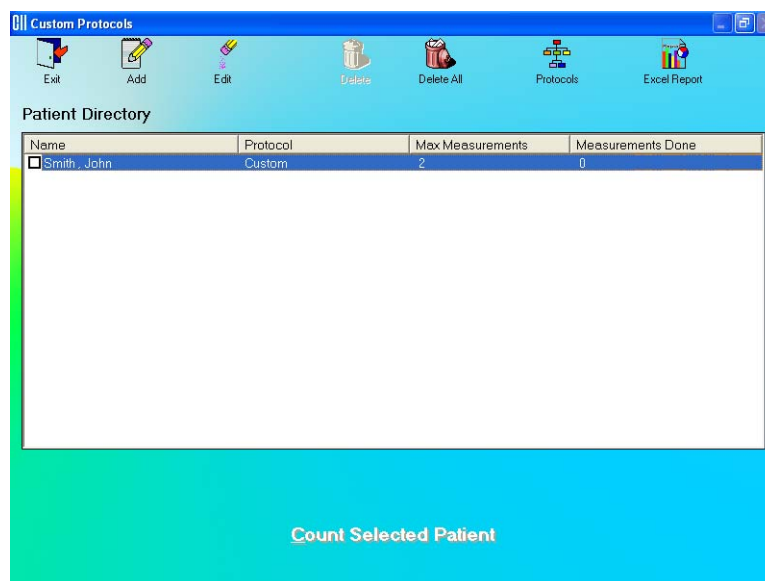
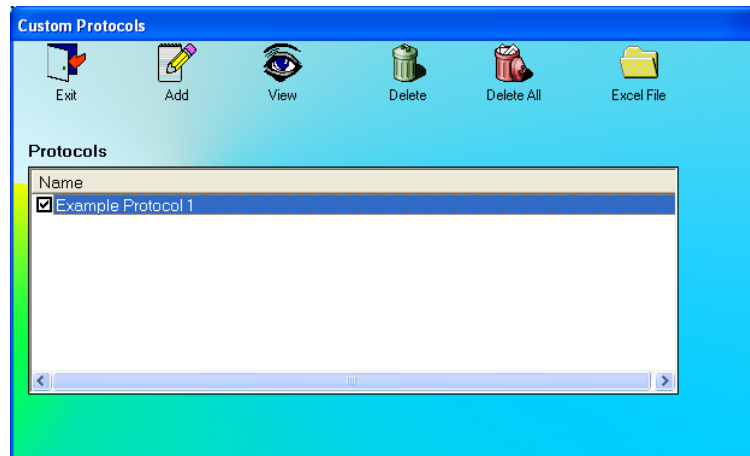

Figure 16-1 Main Custom Protocols Screen
Figure 16-2 Main Protocol Screen
Click the **Custom Protocols** button or press *ALT+C* on the Main screen. Figure 16-1 Main Custom Protocols Screen will appear. The **Patient Directory** list box will be empty if there are no existing patients in the database at that time. Each added patient will appear in this box with its name, Protocol name, maximum number of measurements for the protocol and number of measurements that have been performed.
To Add, View, or Delete Protocols, click the  icon on Figure 16-1 Main Custom Protocols Screen. Figure 16-2 Main Protocol Screen will appear.
1. Click the  icon on Figure 16-2 Main Protocol Screen. The Protocol Setup screen will appear as shown in Figure 16-3.
Click the  icon on Figure 16-2 Main Protocol Screen. You can then step through the screens described in Adding Protocols and view the details of the protocol.
On the Main Protocol Screen, check the Protocols that you want to delete. Click the  icon on Figure 16-2 Main Protocol Screen. You will be asked to verify the deletion(s).
Click the  icon on Figure 16-2 Main Protocol Screen. You will be asked to verify the deletion(s).
Click the  icon on Figure 16-2 Main Protocol Screen to input or change the name of the workbook to be used to analyze the data for the protocol. If the selected workbook has already been assigned to a protocol, an error message will appear.
1. Click the  icon on Figure 16-1 Main Custom Protocols Screen.
4. Click the **Done** button or press *ALT+D* to go to the Add Patient Screen as shown in Figure 16-8. Click the **Cancel** button or press *ALT+C* to return to Figure 16-1 Main Custom Protocols Screen.